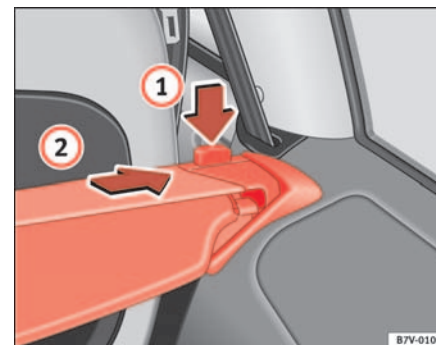

Fig. 114 Luggage compartment: holders on the right
- Press the unlock button (with the luggage compartment cover rolled up) ⇒ page 145, fig. 114 ① in the direction of the arrow and remove the cover from the right holder upwards.
- Remove the cover from the left holder in the direction of the arrow ② and remove from the vehicle.